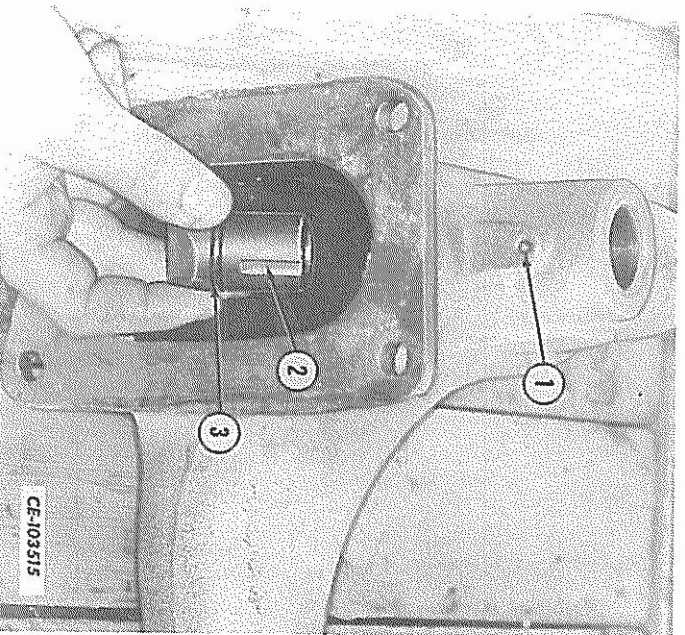

FIG. 92 — Installing the Shift Lever Poppet
71. Install a new sealing ring (3, Fig. 92) on the poppet and insert the poppet into the shifter housing engaging the poppet slot (2) with the pin (1) in the housing.